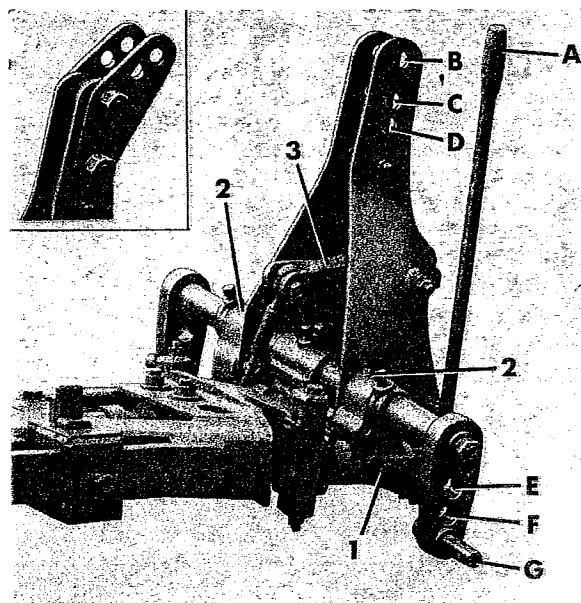

Fig. 1
- (1) (Fig. 1). Plunger socket - head casting - every 8 working hours.
- (2) (Fig. 1). Cross shaft bearing - head casting - every 8 working hours. Mechanical only.
- (3) (Fig. 1). Fulcrum arm - every 8 working hours. Mechanical only.
5. COUPLING PLOUGH TO TRACTOR (Fig. 1)
Raise the plough, and while seated on the tractor pull the lever 'A' (Fig. 1) towards you.